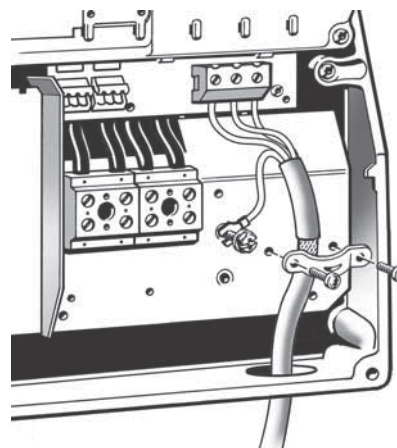

Fig. 128 Motor connection, B1 and B2
1. Connect the earth conductor to terminal 99 (PE). See fig. 128.
2. Connect the motor conductors to terminals 96 (U), 97 (V), 98 (W).